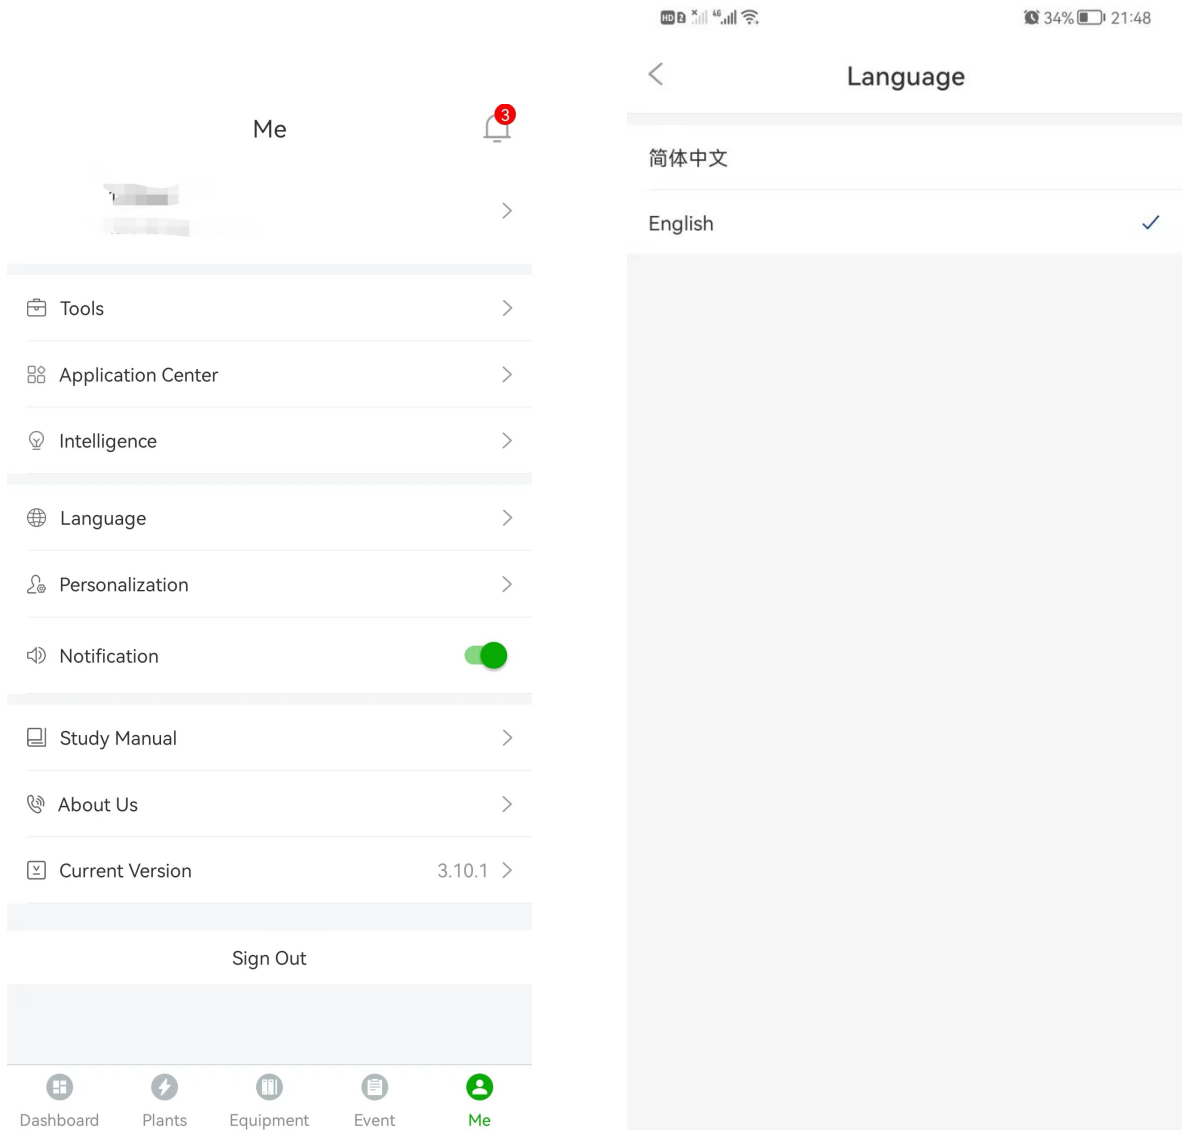

Figure 10-1 Language settings
1. Click the "Me" button at the bottom to enter the personal center and select the language, as shown in Figure 10-1.